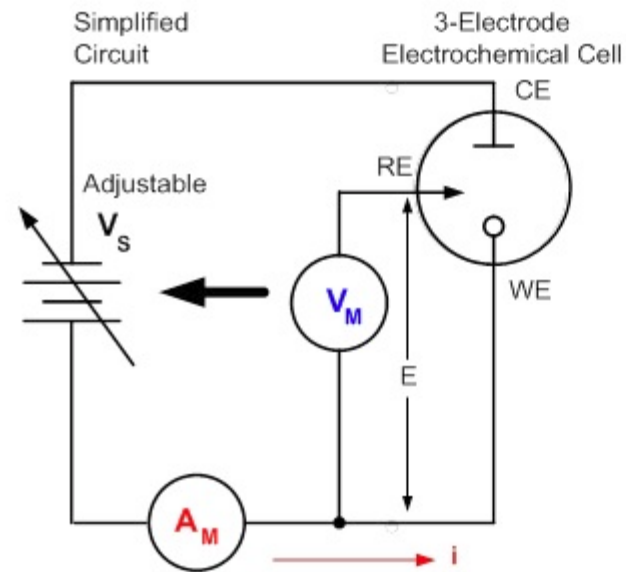

Figure 1. Simplified measurement circuit for performing cyclic voltammetry
Figure 1. Treatment of a substrate with KOH and O₂ plasma prior to APTES functionalization as part of an APTES-based sandwich ELISA procedure. Reproduced with permission from ref 60. Copyright 2011 Nature America Inc.